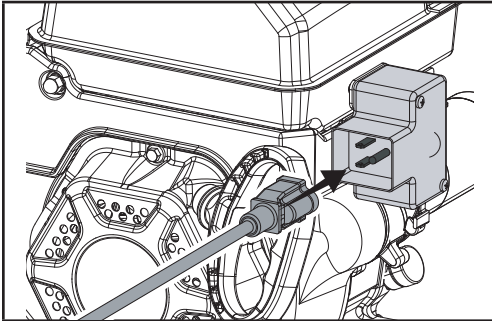

Figure 15
- Alternatively, for electric start, plug in the supplied electrical cord into the starter. Press the electric start button and make sure that the main supply voltage is 120 V~60 Hz (Fig. 15).